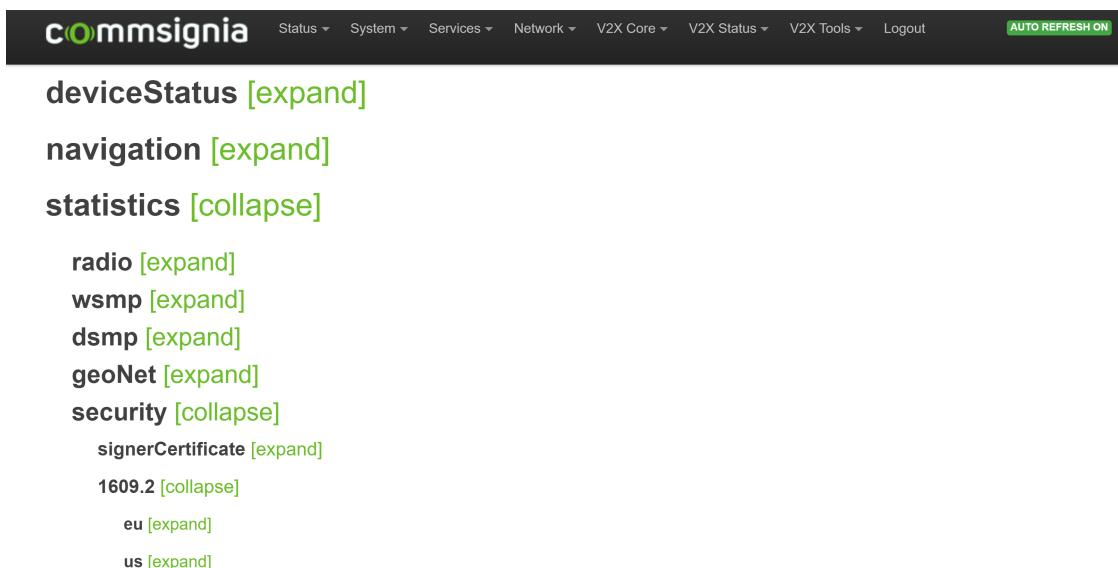

Figure 41. Statistics for secured messages
6. To verify that the outgoing V2X messages are automatically signed before they are sent, open the `V2X Core` → `Core status` menu item, as shown in Figure 41, expand `statistics`, expand `security`, and expand `1609.2`. To access the counters, expand the appropriate region (`eu/us`) under this item. The transmission of secured messages can be verified by the increase of the value of the `txSignedPacket` counter.